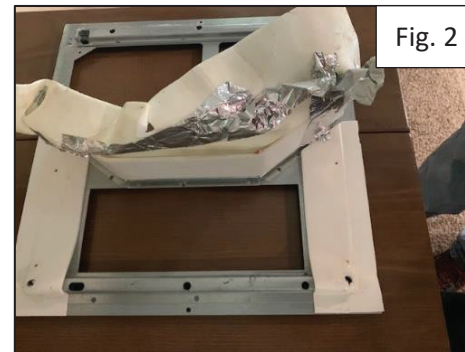

Fig. 2
- b. Upper Divider Plate: secured to lower divider plate by foil tape or white foam rubber (see fig.2).